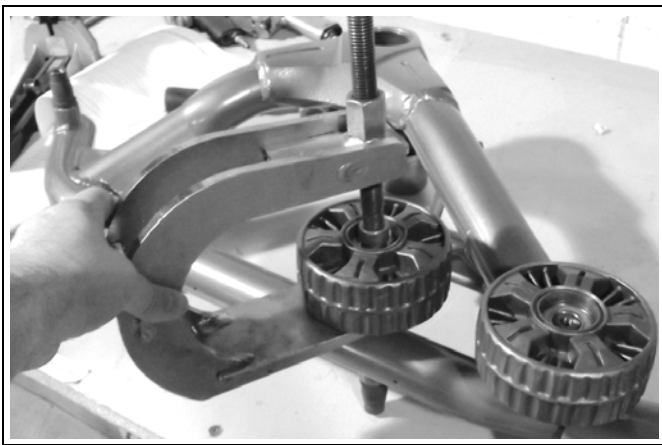

Figure 27
- Install the extractor under the wheel as shown on Figure 27